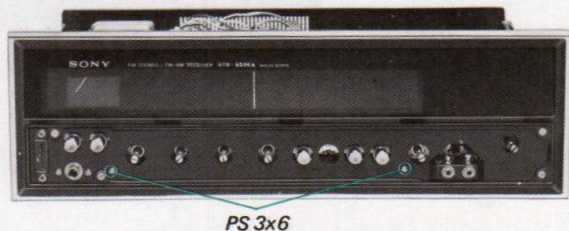

Fig. 2-12. Control circuit board removal
4. Remove the two screws securing the control circuit board to the front subchassis as shown in Fig. 2-12.